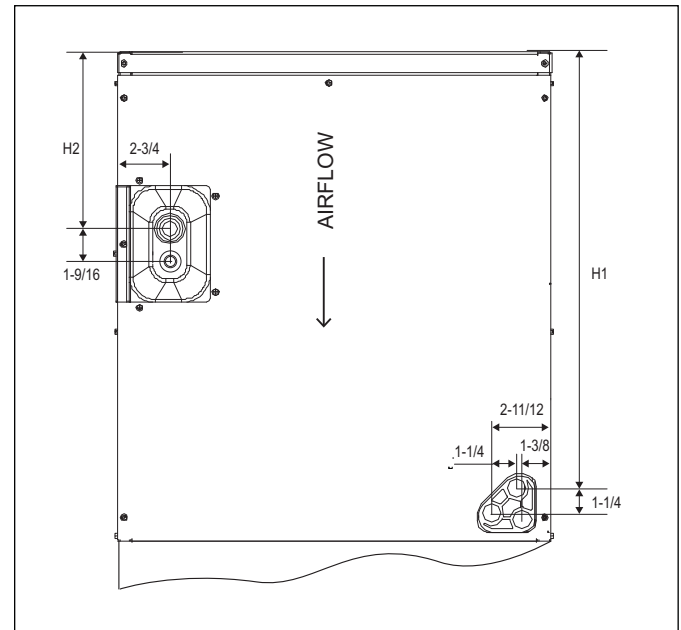
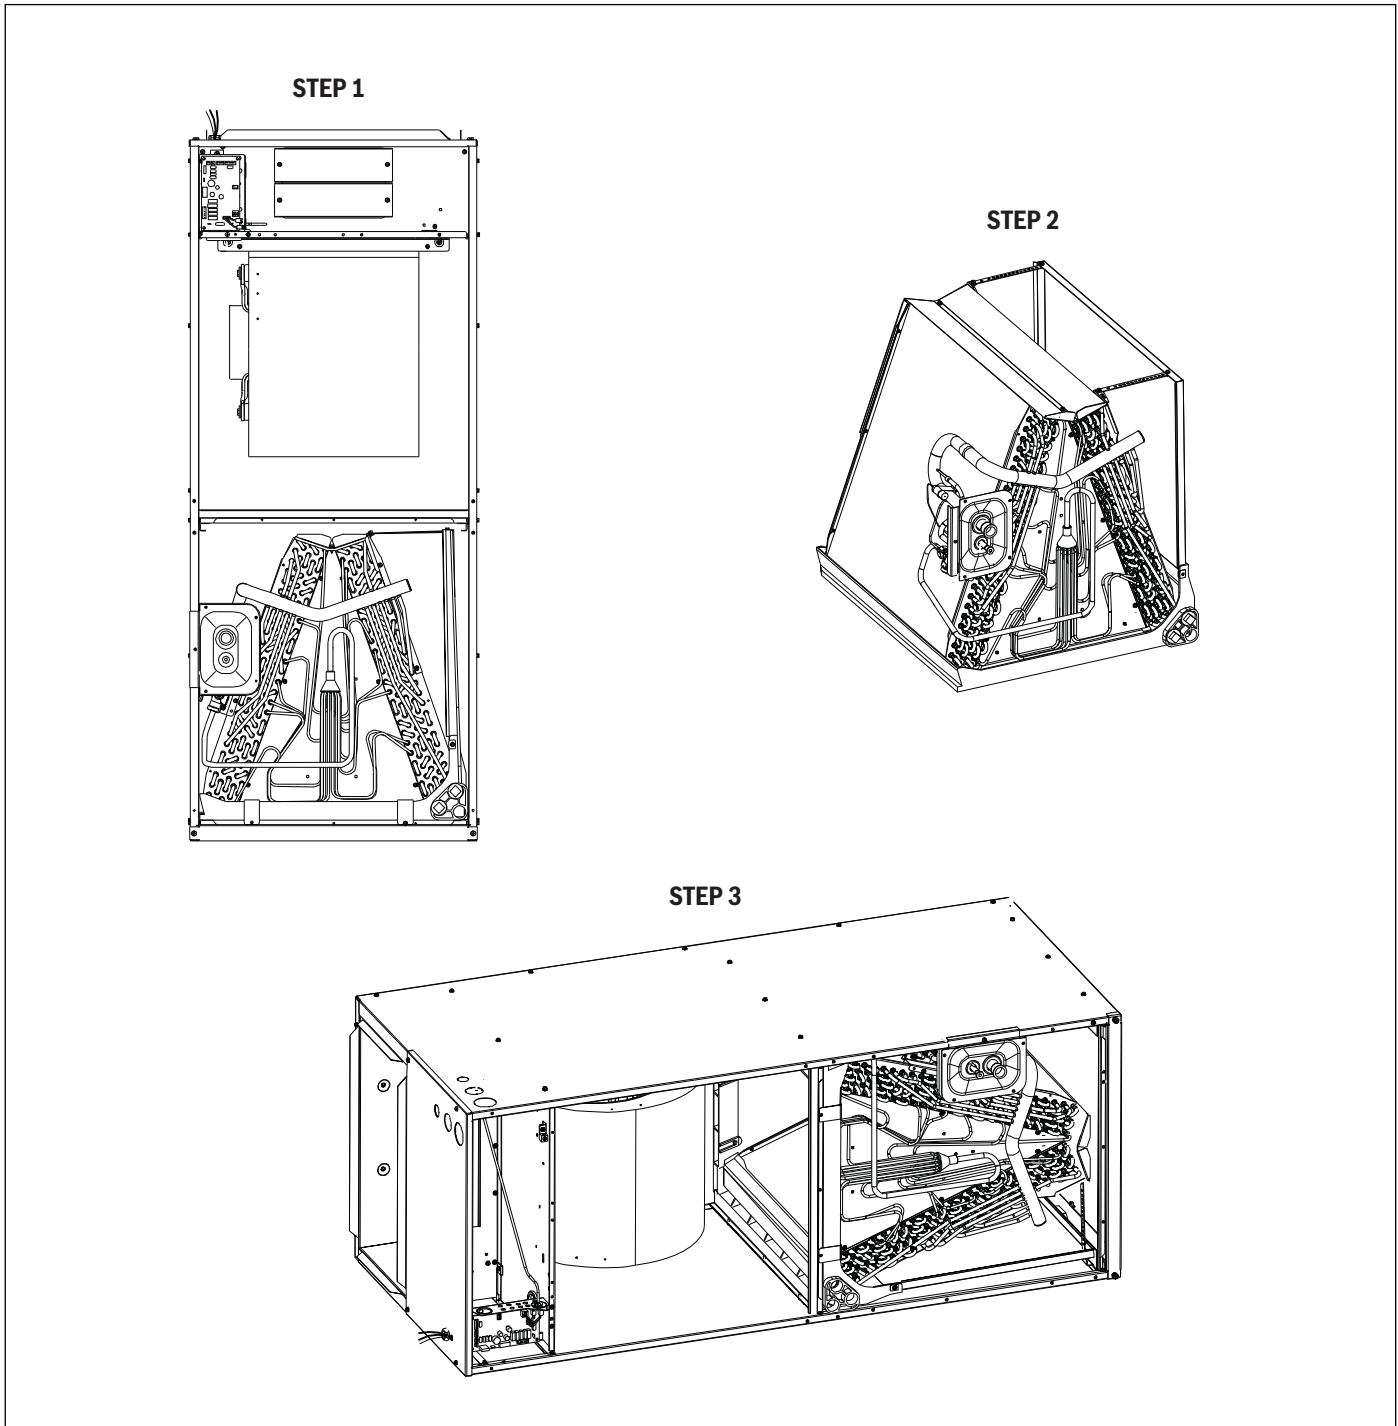

Figure 10 Dimensions For Air Handler (Coil Section)
Figure 11 Vertical Downflow & Horizontal Left Applications Conversion
A vertical upflow unit may be converted to vertical downflow. Remove the coil access panel and indoor coil and reinstall 180° from original position. See Figure 10 and Figure 11.
A vertical upflow unit may be converted to horizontal left by removing indoor coil assembly and reinstalling coil as shown for left hand air supply. See Figure 11.
- ▶ Reinstall the indoor coil 180° from original position. Ensure the retaining channel is fully engaged with the coil rail. See Figures 11 and 12.
1. Remove the screws and front panel (Figure 10, Step 1).
2. Pull out the coil (Figure 10, Step 2).
3. Replace the coil in the correct orientation and secure in place. (Figure 10, Step 3).